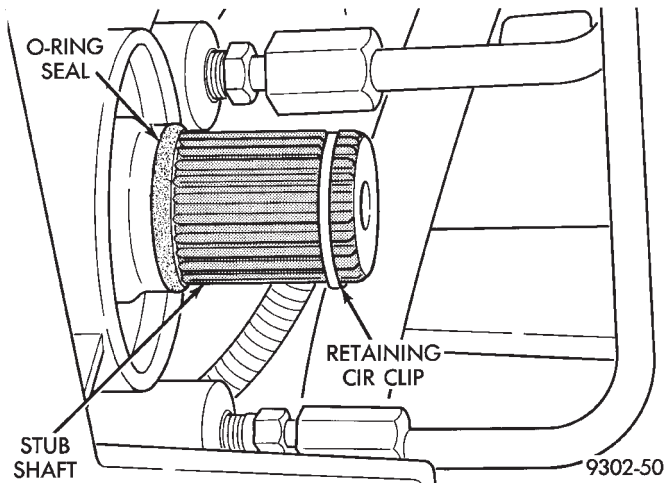

Fig. 12 Tripod Joint Retaining Circlip And O-Ring Seal
CAUTION: The inboard tripod joint retaining circlip and O-ring seal (Fig. 12) on the transaxle stub shaft are not re-usable. Whenever the inboard tripod joint is removed from the stub shaft, the retaining circlip and O-ring seal **MUST BE REPLACED**. The retaining circlip and O-ring seal is included in all service kits requiring removal of the inboard tripod joint from the stub shaft.
(1) Replace O-ring seal and tripod joint retaining circlip (Fig. 12) on the transaxle stub shaft.